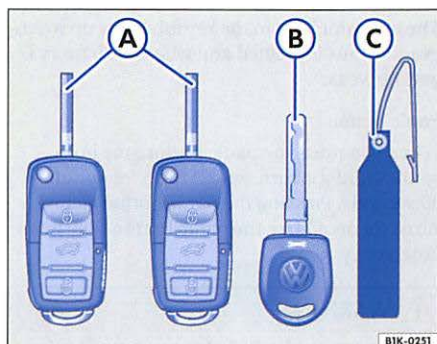

Fig. 24 Key set
- two master keys ⇒ fig. 24 A with remote control and panic button and an emergency key B